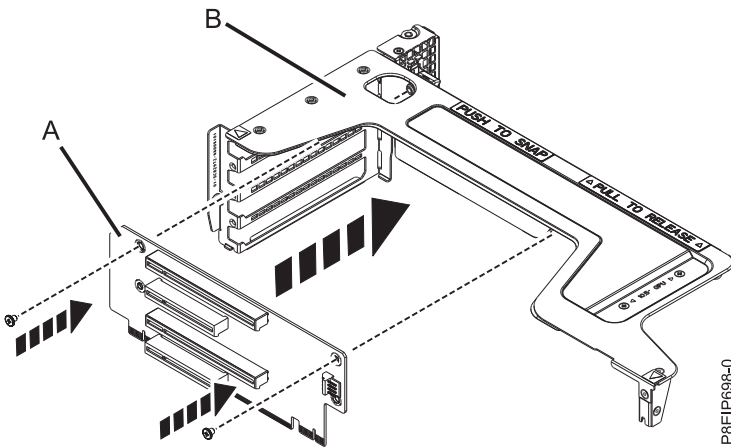

Figure 55. Replacing position 5, 6, 7, and 8 riser card
5. If the riser card for positions 5, 6, 7, and 8 needs replacing, replace it into the riser support. Replace the two screws that secure the riser card to the riser support as shown in Figure 55.